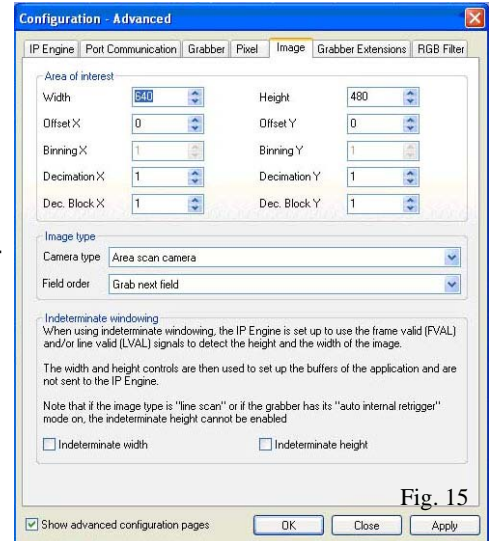

Fig. 15
- Open “Image” tab, the image size 640 x 480 (VGA, default) is acceptable but can be changed to 656 x 494 for VGA. SXGA is required to type “1392 x 1040” or smaller. Note: The horizontal number must be increment of 4. For the quick test purpose, you can stay with the default value until you see image capturing and ready for configuration changes. (Fig. 15)
Note: The horizontal number must be increment of 4. For the quick test purpose, you can stay with the default value until you see image capturing and ready for configuration changes. (Fig. 15)